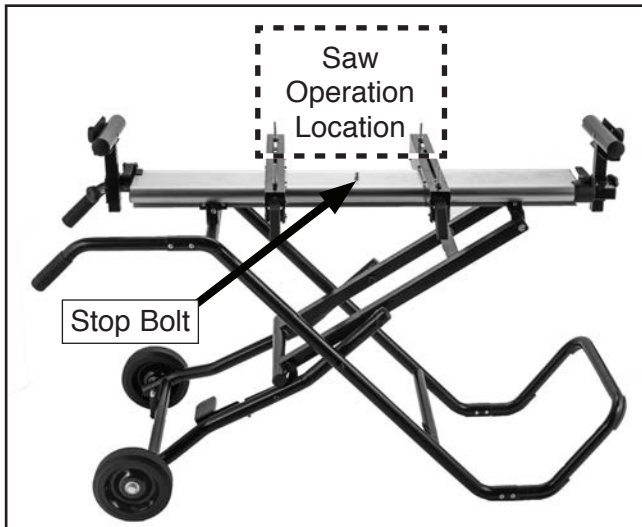

Figure 19. Saw operation location.
This miter stand has two locking positions: Folded for stowage or unfolded for saw operations. When the stand is unfolded for use, for maximum stability and load bearing safety, saw must be locked at the operation location shown in **Figure 19**.
3. Move and lock saw in operation location, as shown in **Figure 19**.